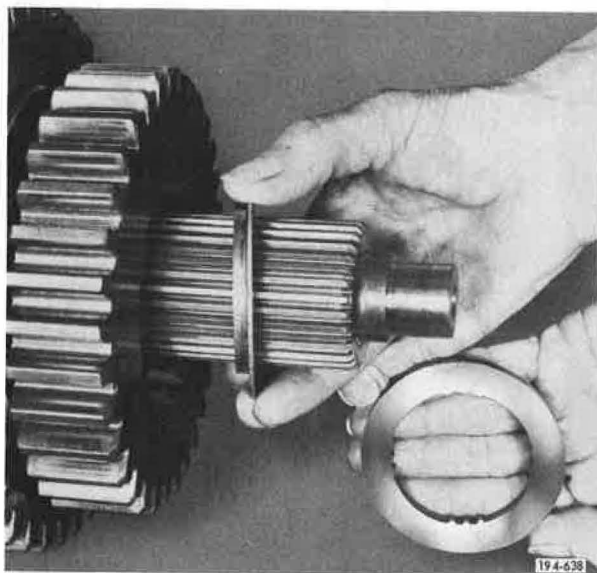

Figure 5-745. Removing Thrust Washers
4. Remove fourth speed gear splined thrust washer and flanged thrust washer. See **Figure 5-745**.